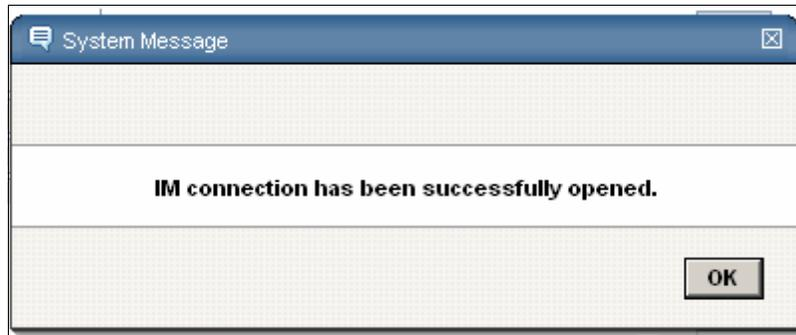

Figure 7-12 IM connection
4. You now have an open session with the Sametime application, as shown in Figure 7-12 on page 213.